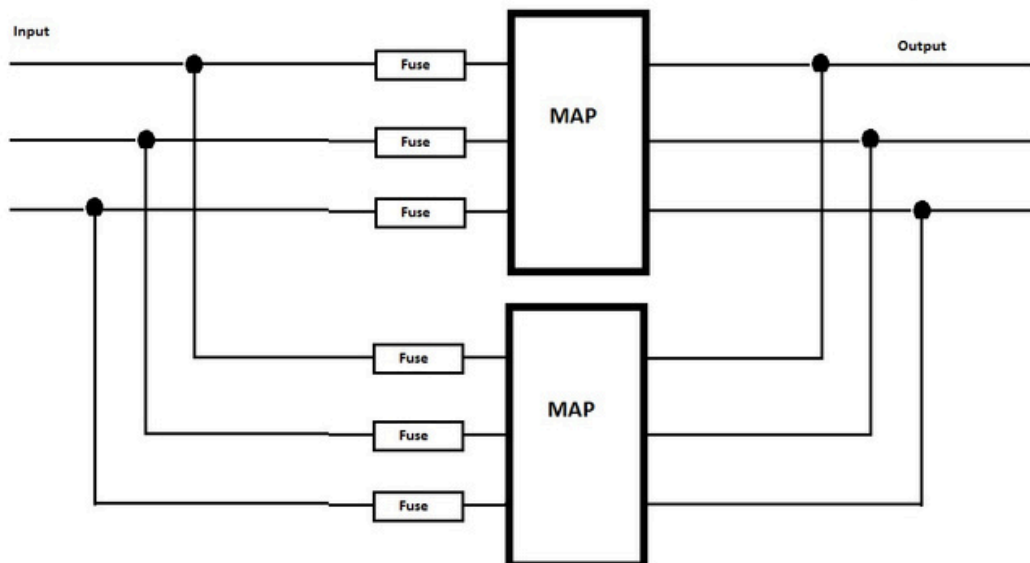

**Figure 1**
- b. Options 009, if used, may result in an asynchronous pick up and drop out of the capacitor contactor where one closes early and one late. Though this is not a preferred method of operation, overall functionality should not be adversely impacted. The preferred method would be to run a master / slave configuration with only one filter fitted with the 009 current sensor option making it the "master". The remaining filter(s) fitted with the 012 option are to be "slave" units. The normally open (N.O.) aux contacts from the master 009 main contactor unit should then serve as the control method to activate the slave 012 filter(s). See Figure 1